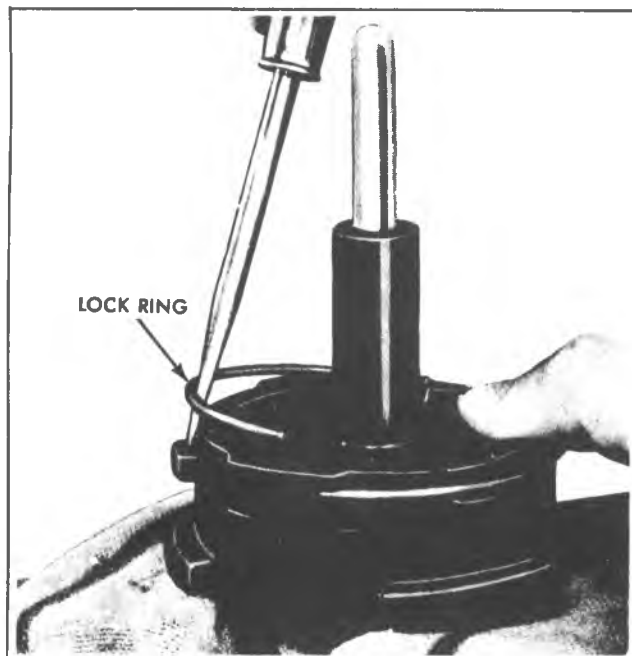

Fig. 5-4C—Removing Lock Ring From Power Piston
3. Remove lock ring from power piston by prying one end out from under large divided locking lug and then proceed to pull ring from under other two locking lugs on power piston (fig. 5-4C).